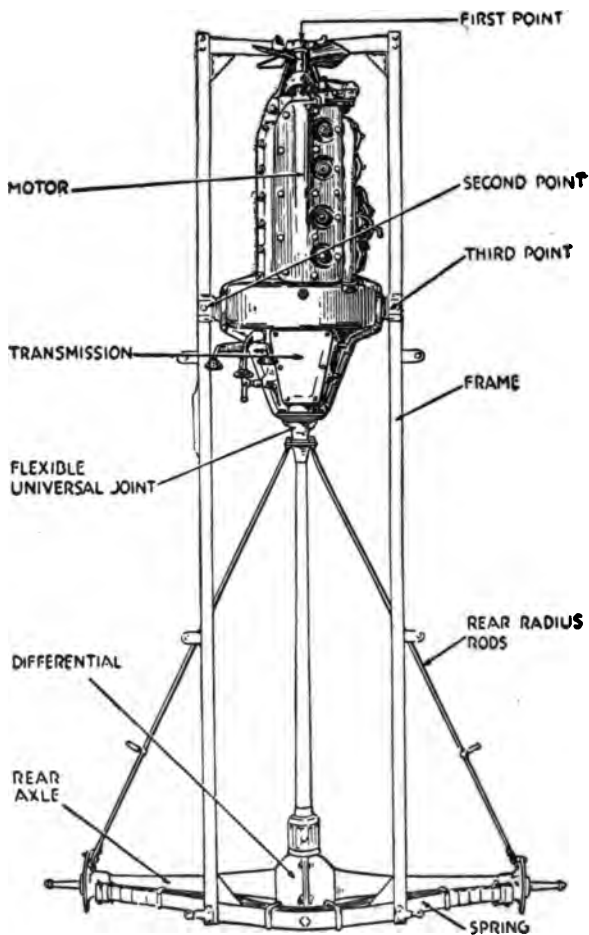

Figure 32.—Power Plant, Transmission System and Frame, Showing Three-Point Suspension.
*Frame.*—The frame of the Ford car with the power plant and rear axle mounting is shown in Figure 32. The frame itself is a rectangular assembly of pressed steel channels. The frame supports the power plant and body and is itself supported on the springs and the front and rear axles.
The Ford principle of three-point suspension is well illustrated by the view in Figure 32. The power plant is supported in front and at its two sides on the frame. The rear axle is supported toward the front by the rear end of the power plant and at its outer ends by the triangular radius rods. The front axle likewise forms a triangular system as already explained.